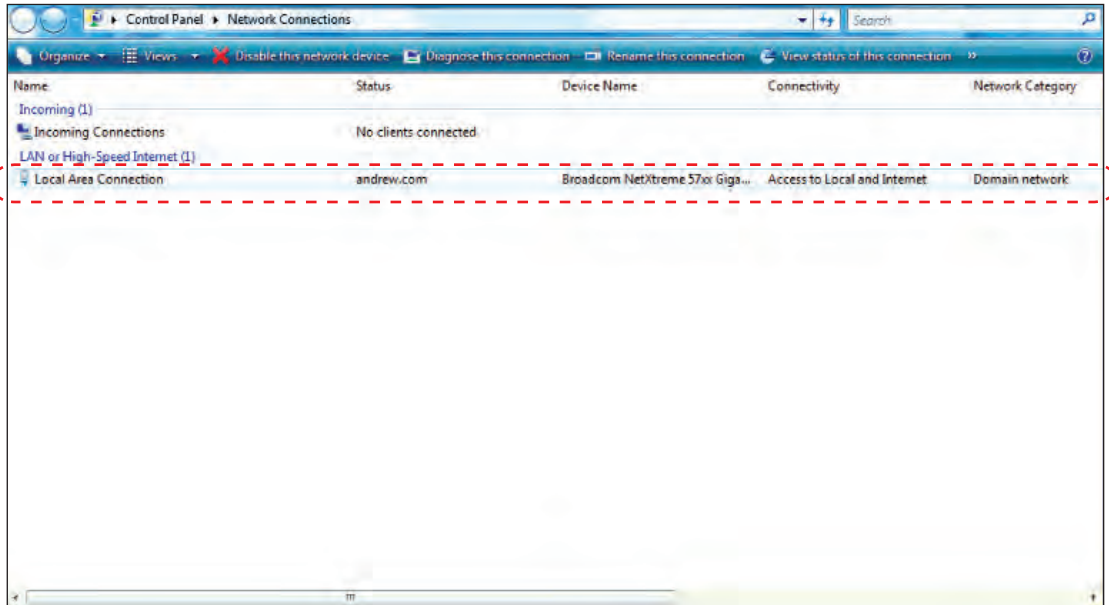

Figure B-6. Selecting Local Area Connection.
- Click on **Local Area Connection** (Figure B-6). This may appear differently on your computer. Ensure that you are using the connection that represents your RJ-45 port on the back of your computer.